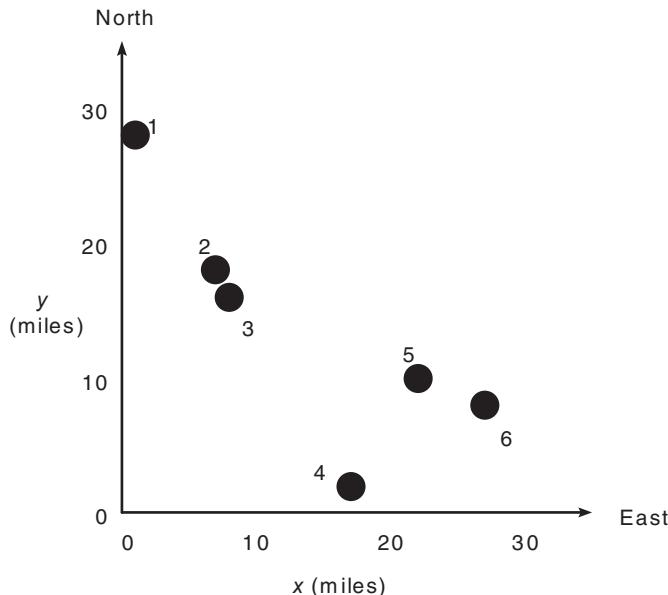

Figure P28
- 28.*** A company wants to locate a distribution center that will serve six of its major customers in a 30×30 mi area. The locations of the customers relative to the southwest corner of the area are given in the following table in terms of (x, y) coordinates (the x direction is east; the y direction is north) (see Figure P28). Also given is the volume in tons per week that must be delivered from the distribution center to each customer. The weekly delivery cost c_i for customer i depends on the volume V_i and the distance d_i from the distribution center. For simplicity we will assume that this distance is the straight-line distance. (This assumes that the road network is dense.) The weekly cost is given by $c_i = 0.5d_iV_i$, $i = 1, \dots, 6$. Find the location of the distribution center (to the nearest mile) that minimizes the total weekly cost to service all six customers.